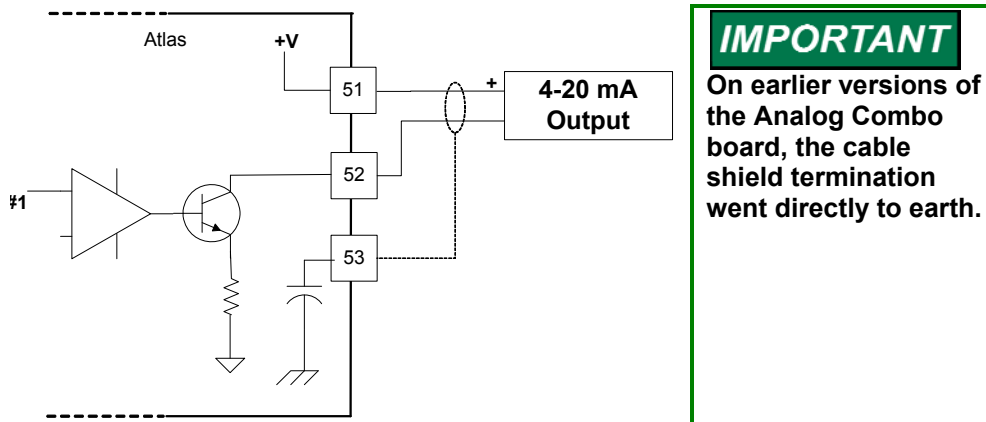

Figure 7-8. Wiring Example—Analog Output Interface
- Refer to Figure 7-8 for analog output wiring.